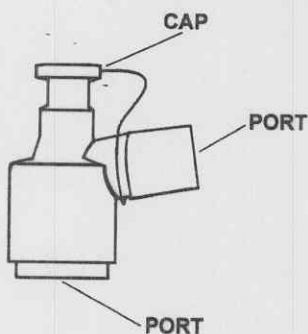

Figure 1-7. Adapter.
(6) *Adapter (fig 1-7).* The adapter and color-coded plastic caps are used to connect the fiberoptic bronchoscope to ventilation equipment circuits.